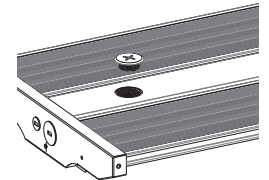

Figure 2
Step 1: Remove the receptacle cover. (Figure 1 and Figure 2)